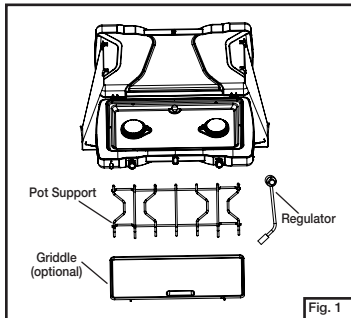

Fig. 1
- Never use inside house, camper, tent, vehicle or other unventilated or enclosed areas. This stove consumes air (oxygen) and produces carbon monoxide (CO). Do not use in unventilated or enclosed areas to avoid endangering your life.
- Remove components from carton. (Fig. 1)